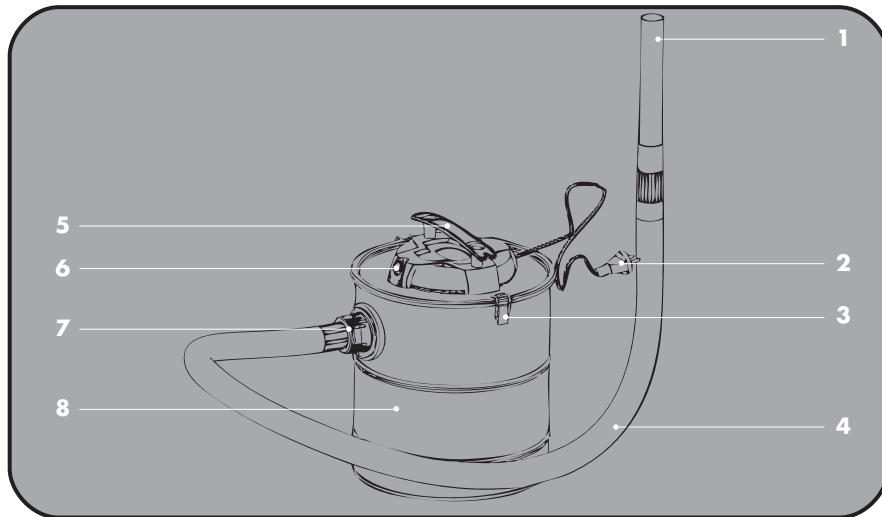

Fig. 1: Appliance overview
2. Then put the container cover back on and close this using the fastener hooks attached on the sides (see Fig. 1, No. 3)
3. Insert the end of the suction hose (see Fig. 1, No. 4) in the inlet opening. The hose is secured by turning it clockwise.
4. Then insert the suction tube (see Fig. 1, No. 1) onto the suction hose (see Fig. 1, No. 4). Unwind the power cord (see Fig. 1, No. 2) fully to start up the appliance.
1. Set the ON/OFF switch (see Fig. 1, No. 6) to position 0.
2. Pull the mains plug (see Fig. 1, No. 2) out of the socket.